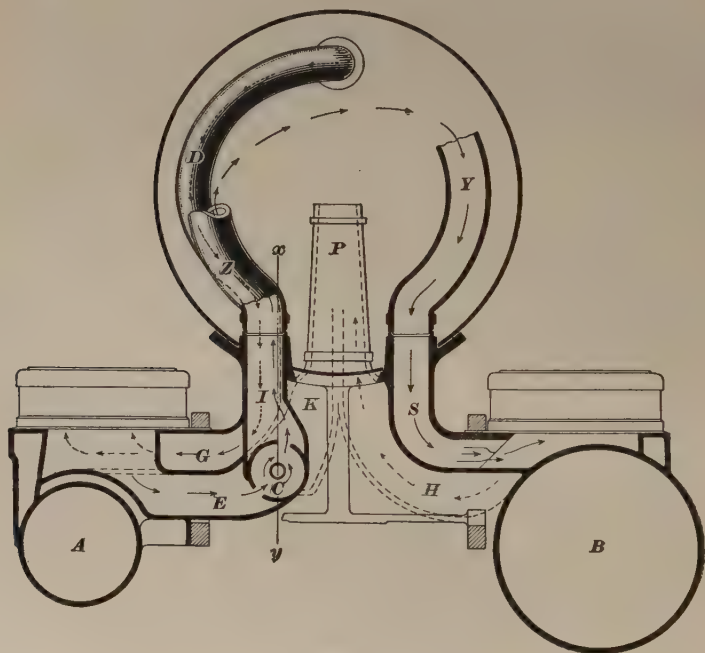
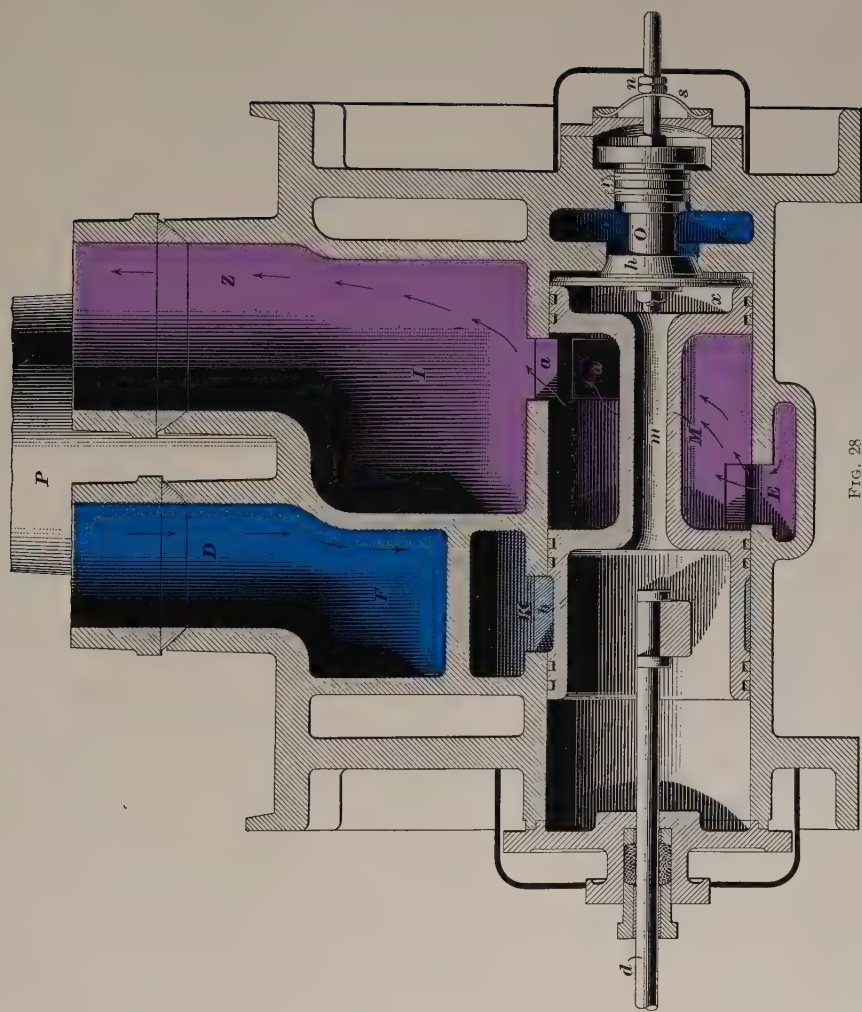

FIG. 25
FIG. 28
50. General Arrangement.—A cross-section of the cylinders and saddle of a **Pittsburg compound**, taken through the middle of the receiver YZ , is shown in Fig. 25,
51. Arrangement of the Valves and Passages.—A section of the high-pressure cylinder saddle, taken on the line xy , Fig. 25, showing the arrangement of the different valves and passages, is given in Fig. 26. In the figure, M is the intercepting valve and O the reducing valve. The chamber I connects with the end Z of the receiver. The passageway F connects with the steam pipe D and divides into two branches G , as explained in connection with Fig. 25; hence, steam flows from the passage F directly into the two ends of the high-pressure steam chest. The passage K is the emergency exhaust passage, and leads into the main exhaust passage, as already explained. A short passageway connects chamber c , back of the reducing valve, with the steam passage G , shown in Fig. 25; hence, cavity c is
56. Working Compound.—When the intercepting valve is moved into the compound position, Fig. 28, the port *b* leading into the emergency exhaust passage *K* is covered by the valve, and the high-pressure exhaust port *E* is connected with the receiver through the cavity *M* of the valve and ports *a*. Also, the reducing valve *O* is held closed. Therefore, when the throttle is open with the intercepting valve in this position, the exhaust steam from the high-pressure cylinder passes through the intercepting valve and into the receiver, as indicated by the arrows, thence passing through the receiver into the low-pressure cylinder, and out into the atmosphere through the exhaust passage *H* (Fig. 25) and the exhaust pipe.
A leak by the packing rings on the large head of the intercepting valve *M*, when in compound position, Fig. 28, will allow steam to flow by and condense in the chamber behind it if the vent (not shown in cut) is not kept open. The result of this is that when the engine is changed to simple the water will pass through the hollow *m* of the valve *M*, and will be thrown out with the exhaust from the low-pressure side; it will pass into the low-pressure steam chest with the live steam coming through the reducing valve *O*. The construction and arrangement of the intercepting and reducing valves of this type of compound give very little chance for trouble from defective packing rings or other leaks.